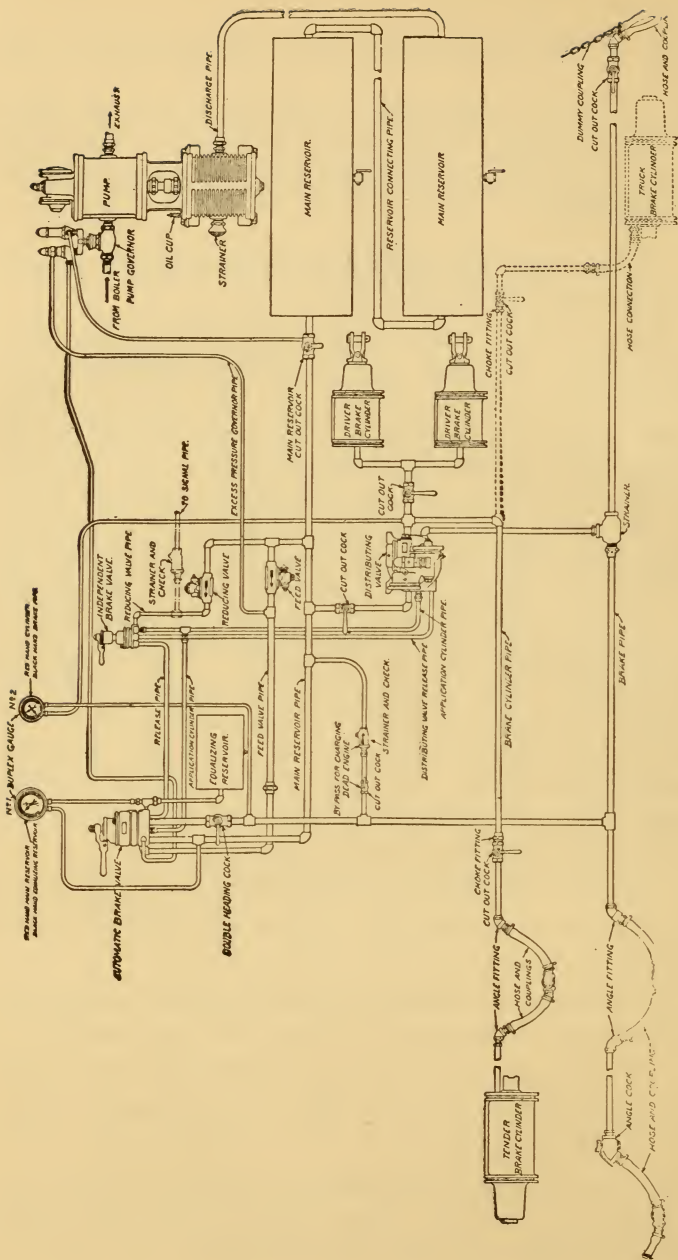

FIG. 132.—PIPING DIAGRAM OF THE No. 6 E T LOCOMOTIVE BRAKE EQUIPMENT.
A. The double-heading pipe is replaced by the "distributing-valve release pipe," which connects the equalizing-valve exhaust port of the distributing valve with the automatic brake valve through the independent brake valve. The application chamber pipe is now called the "application *cylinder* pipe," and branches, one branch going to each brake valve. (See Fig. 132.) The main-reservoir pipe connection to the distributing valve is $\frac{3}{4}$ -inch pipe. The branch pipe from the brake pipe to the distributing valve is $\frac{3}{4}$ -inch pipe. The dead-engine bypass connection is made a regular part of the equipment. The single-pointer air gage is replaced by a small duplex air gage, the red hand of which indicates brake-cylinder pressure, and the black hand is connected to the brake pipe below the double-heading cock and shows brake-pipe pressure at all times, even when the double-heading cock is closed.